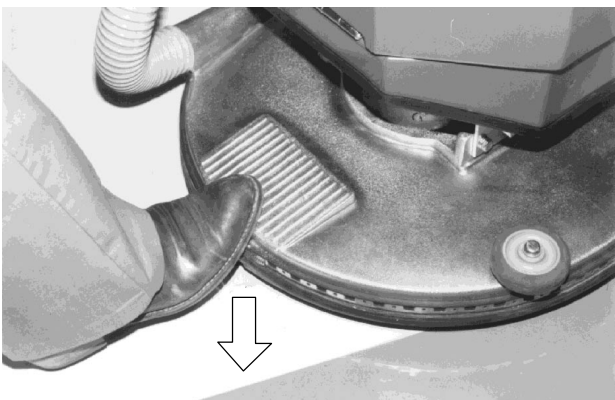

FIG. 5
2. With the control grips released, step down on the rear of the pad shroud until the head locks in the down position (Figure 5).